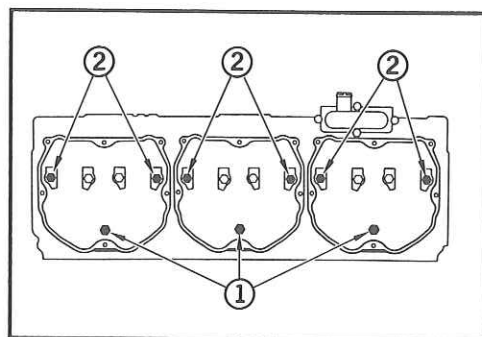

Fig. 11
Refer to Fig. 11 to determine the cylinder head bolts (1) and rocker shaft bolts (2) to be removed.